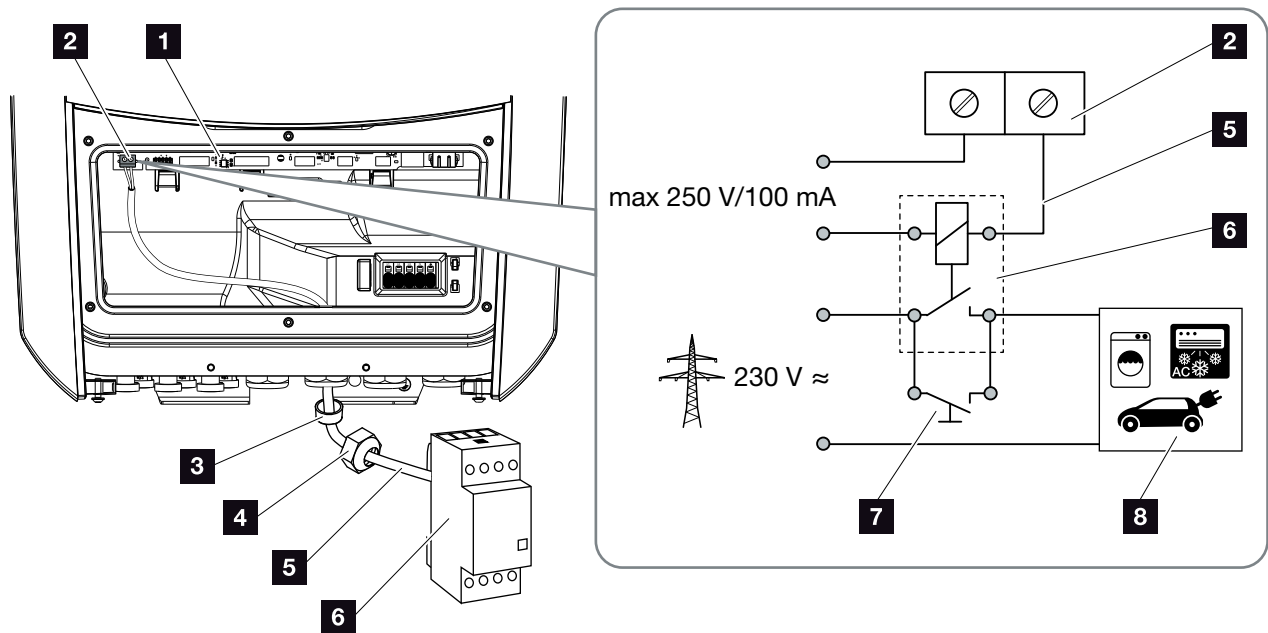

Fig. 63: Electrical connection for self-consumption
2. Correctly connect load relay to the terminal for self-consumption on the Smart Communication Board (torque: 0.5 Nm). **Fig. 63, It. 2**